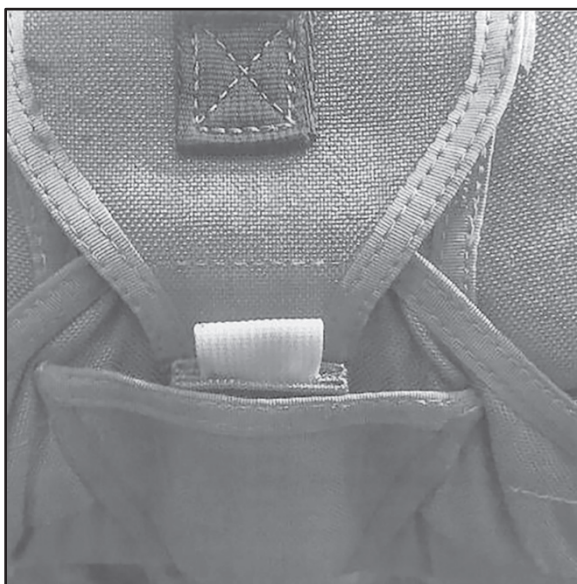

Figure 9-9. T-11R bottom insert is flush with the binding tape
- Ensures that the bottom of the T-11R insert is flush with the binding tape on the tuck pocket and the yellow tab is visible. (See figure 9-9 on page 9-20.)